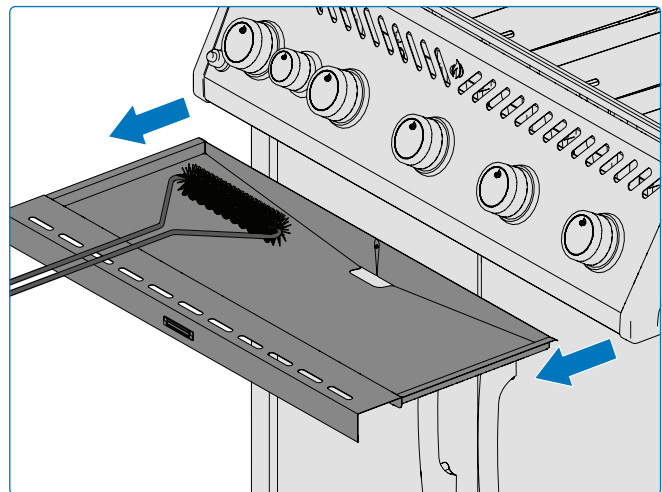

Fig. 24
- Clean the drip pan every 4–5 uses to prevent grease buildup (**Fig 24**).